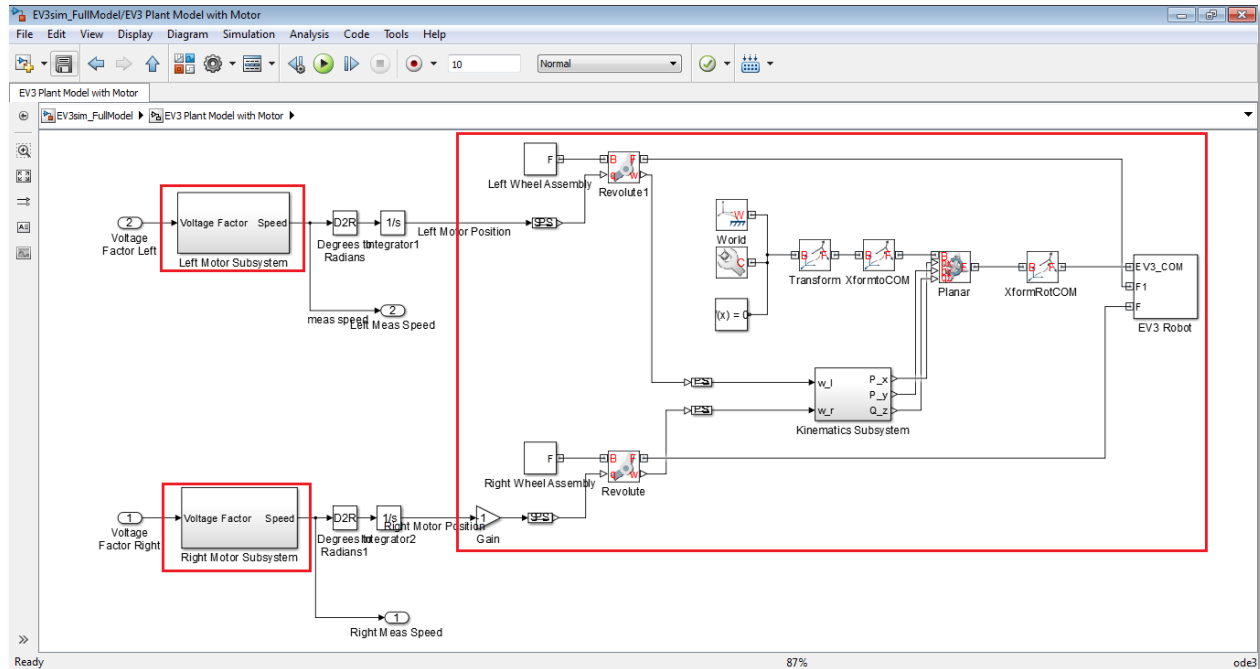

Figure 42 - Motor Subsystems feeding to the Mechanical Assembly
2. Note that in 'EV3sim_FullModel/EV3 Plant Model with Motor' the motor feeds the speed and hence position to a mechanical assembly (Figure 42). Also, navigate to 'EV3sim_FullModel/EV3 Plant Model with Motor/Left Motor Subsystem' subsystem. This is the same model that we developed in OP1.2.